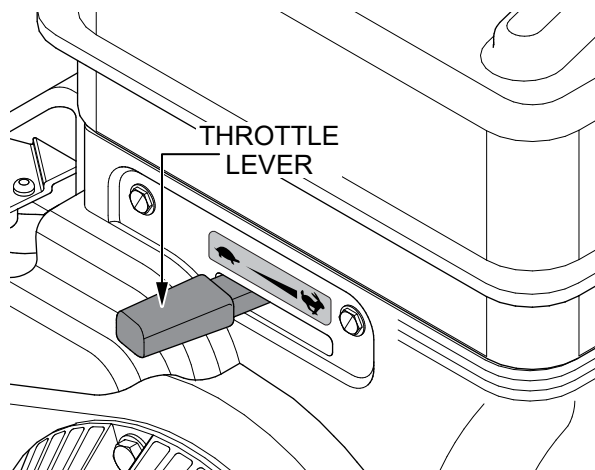

Figure 14. Throttle Lever (Idle)
1. Place the **engine throttle lever** in the **IDLE** position (Figure 14), and run the engine for three minutes at low speed.